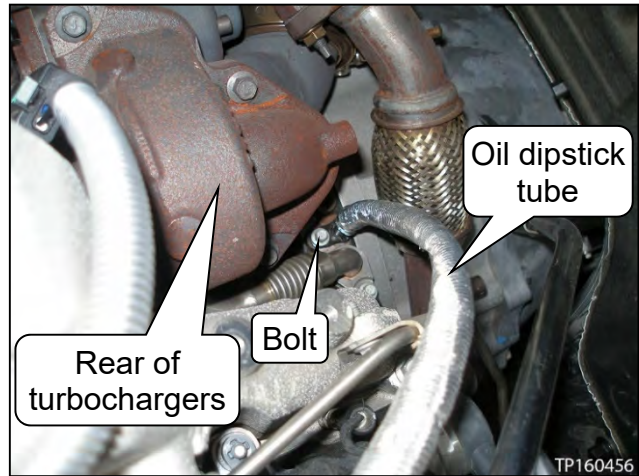

Figure 21
a. Remove the bolt where shown in Figure 21.
- Figure 21 is viewed by looking down behind the rear of the turbocharger assemblies.